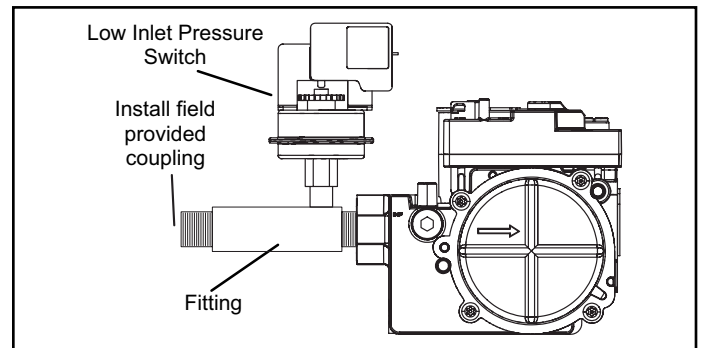
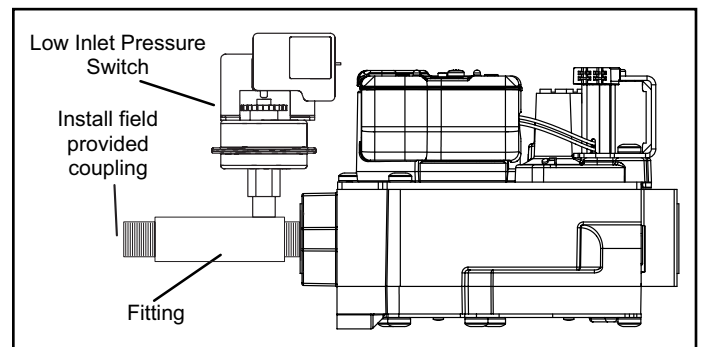
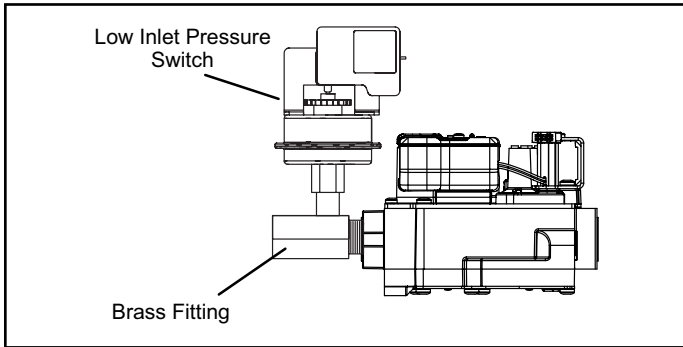

Figure 8. Thread Gas Supply (White Rodgers Gas Valve)
Figure 9. Thread Gas Supply (Resideo Gas Valve)
Figure 11. Gas Valve with Low Inlet Pressure Switch (Resideo Gas Valve)
9. Thread provided fitting to gas valve inlet until hand tight. Using properly sized wrench, tighten fitting 2 to 3 full turns being careful to position the side port to allow clearance for the pressure switch and harness. See Figure 8 through Figure 11.
NOTE: Some installations may require the pressure switch and fitting assembly to be positioned differently than shown in Figure 8 through Figure 11.
10. Thread the gas supply to the fitting until hand tight. A field provided coupling may be needed. See Figure 8 or Figure 9. Using properly sized wrench to support fitting, tighten supply line into fitting 2 to 3 full turns to achieve leak free joint.